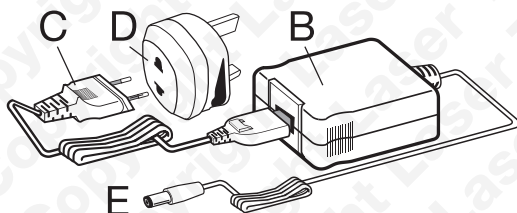
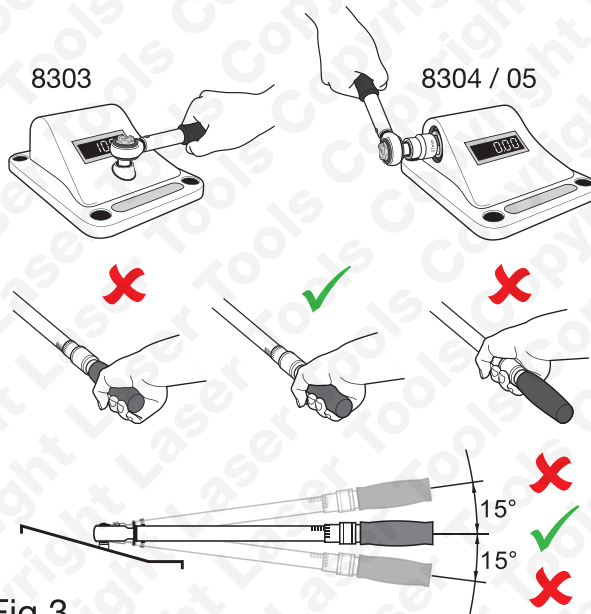

Fig 1
Fig 3
2. Refer to Figures 1 and 2: after connecting the DC adaptor (B), press the ON/OFF switch on the rear of the tester (I) to ON.
3. Press zero/reset button (K). Ensure display is at zero, then steadily apply torque (for each setting) at least 5 times. Record the torque figure from the display.
4. Press and hold (2 sec.) zero/reset button (K) again, then reset the torque wrench to the next figure to be tested. Continue with test, recording the results from the display.
5. Refer to Figure 3: For accurate readings, ensure when applying torque that the wrench is held correctly in the middle area of the handle: not too far up the shaft, or right at the end of the handle.
Accessories supplied (refer to Fig 1):